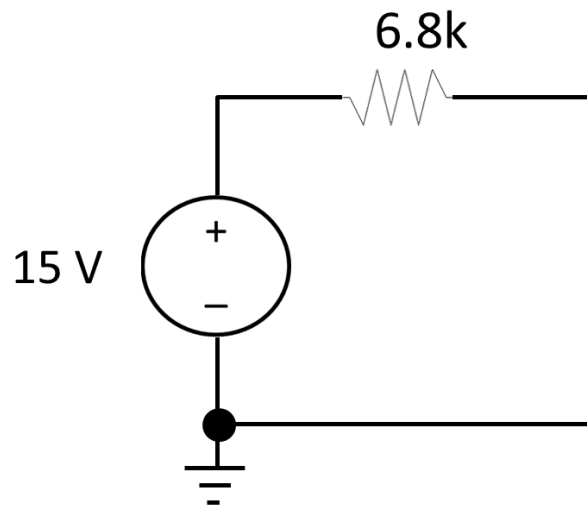

Figure 4: Test circuit for current monitor
- a) Your challenge is to build an ammeter to measure the current in the circuit in figure 4. This task will be easier if one of the leads from the current sense resistor is connected to ground as shown in figure 3. You can use your level one circuit as an amplifier to amplify the voltage across the test resistor. It might be necessary to change the gain.
- b) What affect will inserting a current sense resistor into the circuit have on the current of the original circuit? Should it be a large or small value relative to the 6.8k resistor in figure 4?